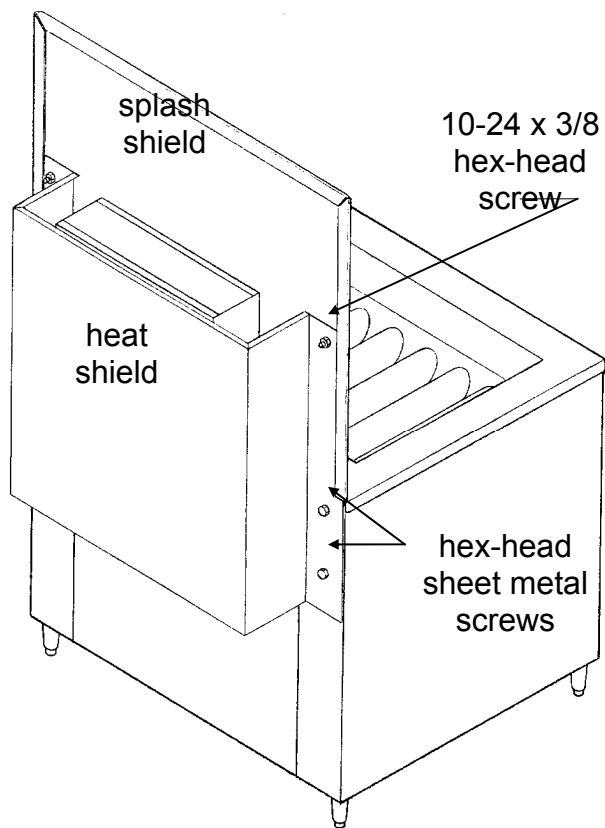

Figure 1-2. Installing the Heat Shield and Splash Shield.
3. Put the heat shield and splash shield on the fryer. They slide over the flue stack, and the back of the kettle slides between the heat shield and the splash shield. The mounting holes in the heat shield and the fryer cabinet must line up. See Figure 1-2.